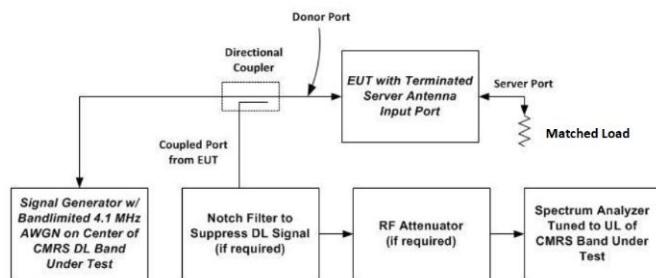

Figure 4 – Test setup for uplink noise power measurement in the presence of a downlink signal
- h) Connect the EUT to the test equipment as shown in Figure 4 for uplink noise power measurement in the presence a downlink signal. Affirm the coupled path of the RF coupler is connected to the spectrum analyzer.
- m) Measure the maximum transmitter noise power level while varying the downlink signal generator output level from -90 dBm to -20 dBm, as measured at the input port (i.e., downlink signal level at the booster donor port node of Figure 4), in 1 dB steps inside the RSSI-dependent region, and in 10 dB steps outside the RSSI-dependent region. Report the six values closest to the limit, with at least two points within the RSSI-dependent region of the limit. See Appendix D for noise limits graphs.
Variable uplink noise timing is to be measured as follows, using the test setup shown in Figure 4.